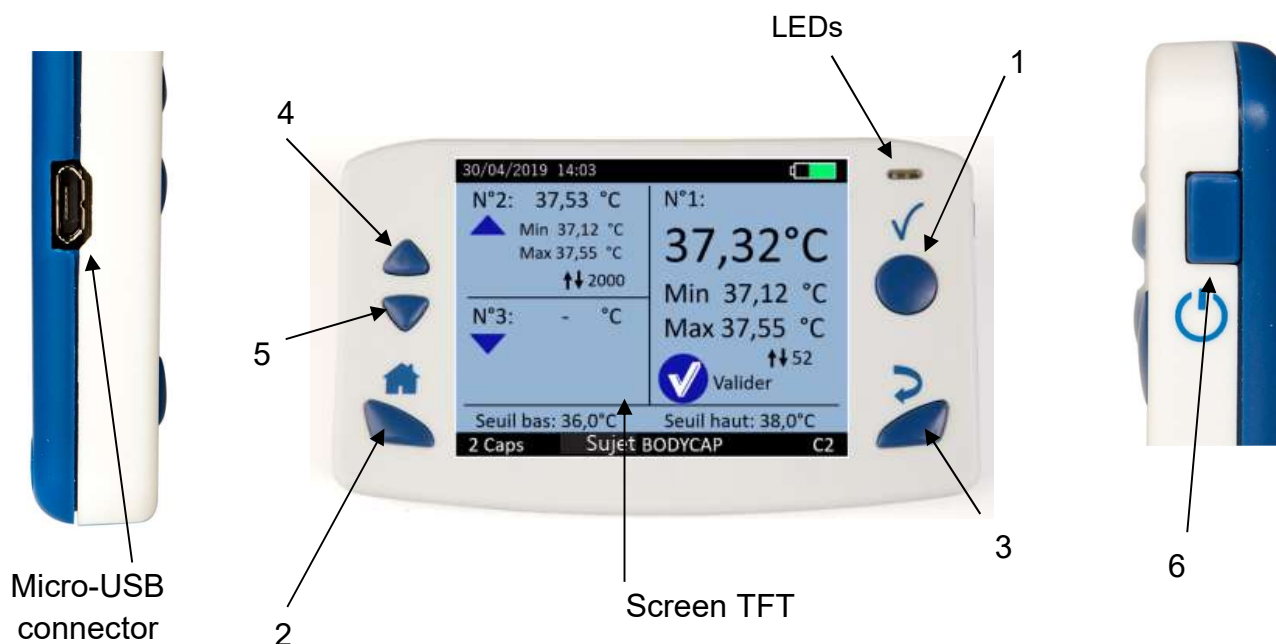

Figure 11: Description of the monitor e-Viewer Medical
The button Validate (ref. 1 Fig. 11)
**The button Home (ref. 2 Fig. 11)**
The button Back (ref. 3 Fig. 11)
The button Arrow up (ref. 4 Fig. 11).
The button Arrow down (ref. 5 Fig. 11).
The button sleep-wake of the screen (ref. 6 Fig. 11).
When the Green LED is lit, it means that the monitor is connected to a power source. Its battery is therefore being loaded. When the battery is fully charged, the green LED goes out. When the monitor is off, the orange LED lights to indicate that the pressure on the side button has been considered (ref 6 fig.11).